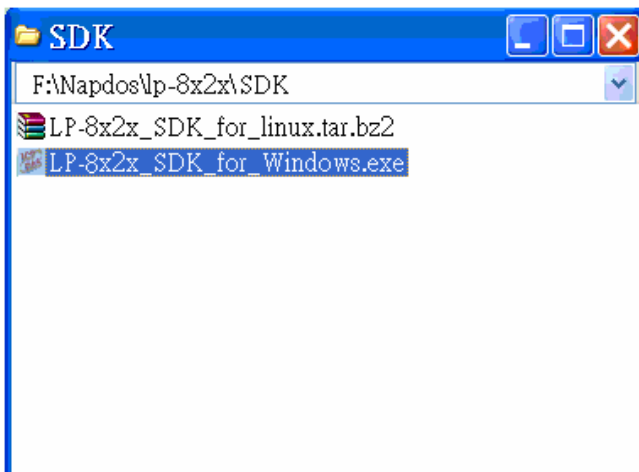
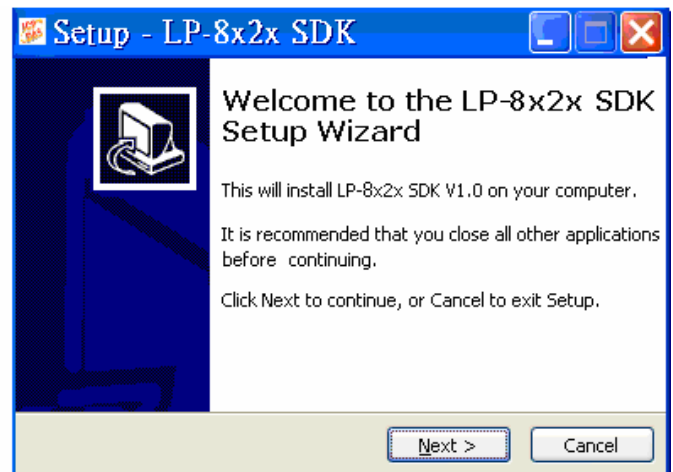

Fig. 2-8
Fig. 2-9
2. Open the \napdos\LP-8x21\SDK\ folder and double-click the icon for the “LP-8x21 SDK for Windows.exe” file, when the Setup Wizard is displayed, click the “Next>” button to continue, refer to Fig. 2-8 and Fig.2-9.